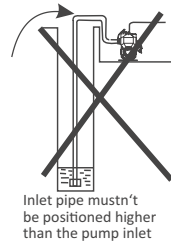

Figure 3
- 4) The inlet pipe of the pump must not be higher than the inlet (Fig. 3).